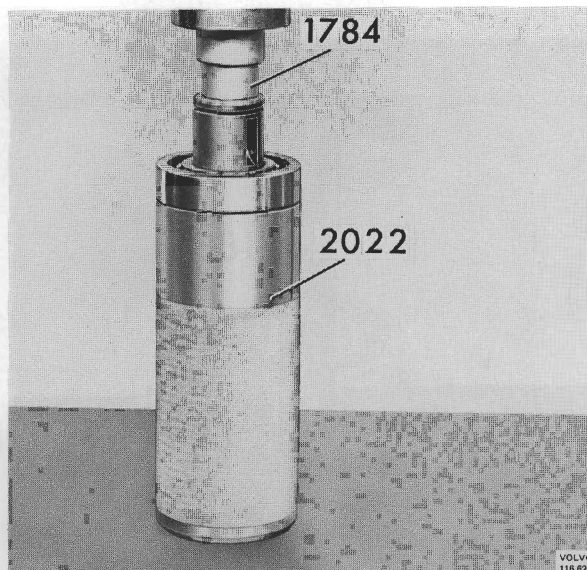

Fig. 48-19. Removing the bearing
8. Place the shaft in 2022 and press off the bearing using 1784, see Fig. 48-19.